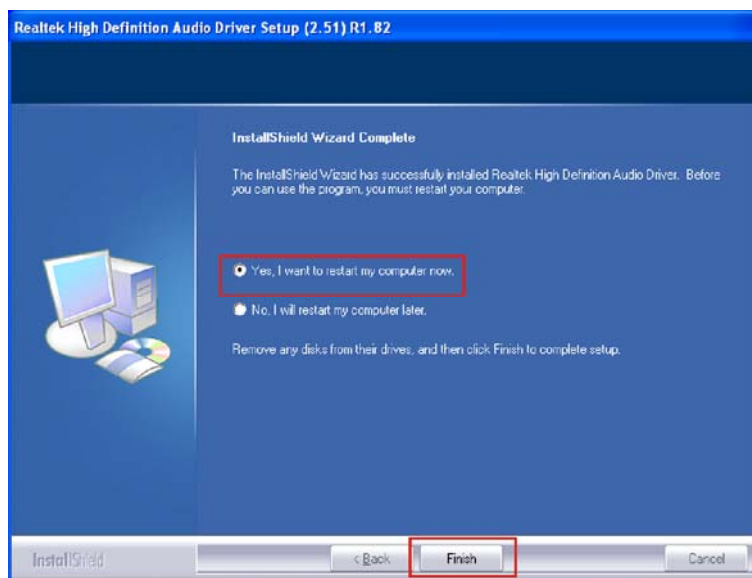

Figure 7-28: HD Audio Driver Installation Complete
Step 7: When the driver is installed, the driver installation finish screen in **Figure 7-28** appears.